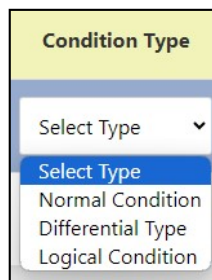

Figure 64: Drop-Down Menu for Condition Type Selection
- 3. Condition Type:** This specifies the nature of the condition and determines how the system will interpret and process it. Selecting the "Condition Type" option opens a dropdown menu with various types to choose from, depending on requirements, as shown in Fig 64.